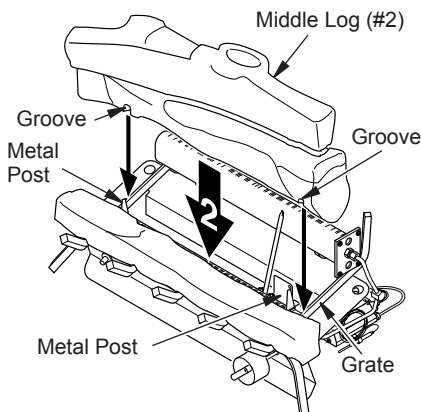

Figure 22 - Installing Middle Log (#2) [18" Variable Manually-Controlled Set Shown]
2. Rest middle log (#2) behind metal posts on front burner. Make sure the grooves in the bottom of the log fit over the grate. Bring the log forward next to the metal posts. The cutout in the middle log must be on top (see Figure 22).